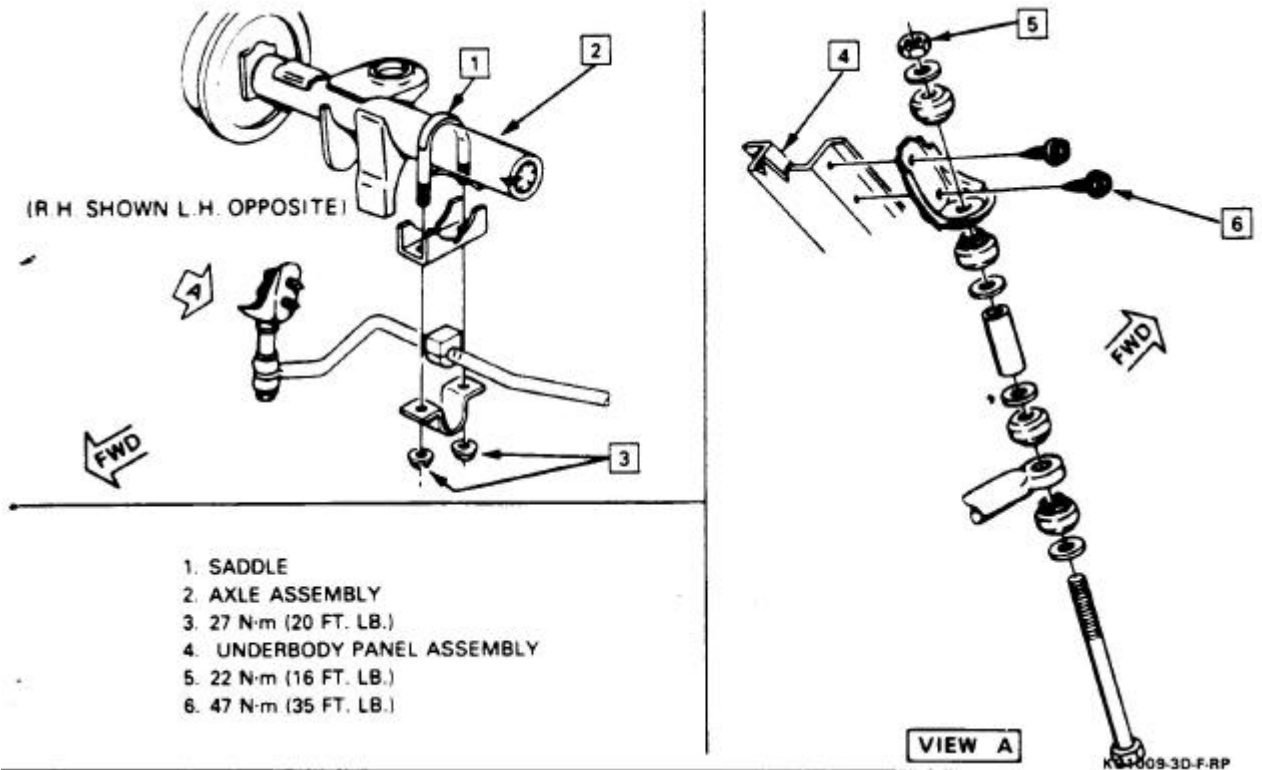

Figure 1
View A of figure 1 above shows the sway bar end links. TDS p/n 207080 are GM 1LE sway bar end link kits that have been yellow-zinc plated for superior corrosion protection. It is common for them the nut (shown as item 5) to become rusted onto the bolt of the end link. The bushings provided in this kit are nylon and offer superior control compared to stock rubber bushings. If you are adding a rear sway bar to a vehicle that never had one stock from the factory there is another item you will need. The bracket shown being mounted with the two bolts (items 6) will need to be purchased and bolted to your vehicle. TDS stocks this as p/n 207190. The kit consists of the right & left sway bar end link mount brackets and the four mounting bolts.